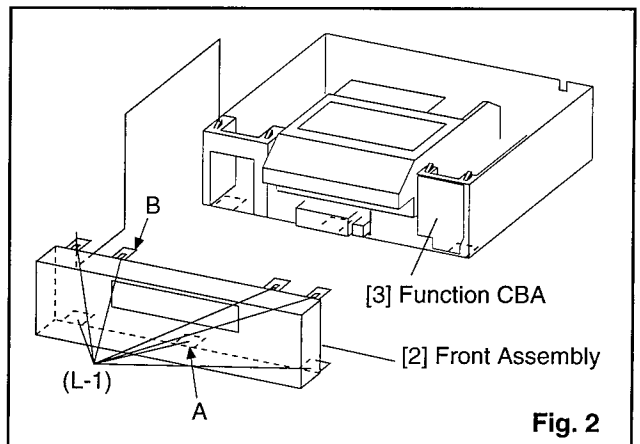

Fig. 2
1. Release 7 Locking Tabs (L-1). To do this, first release three Locking Tabs (A) at the bottom, and then four Locking Tabs (B) at the top. (Fig. 2, 3)